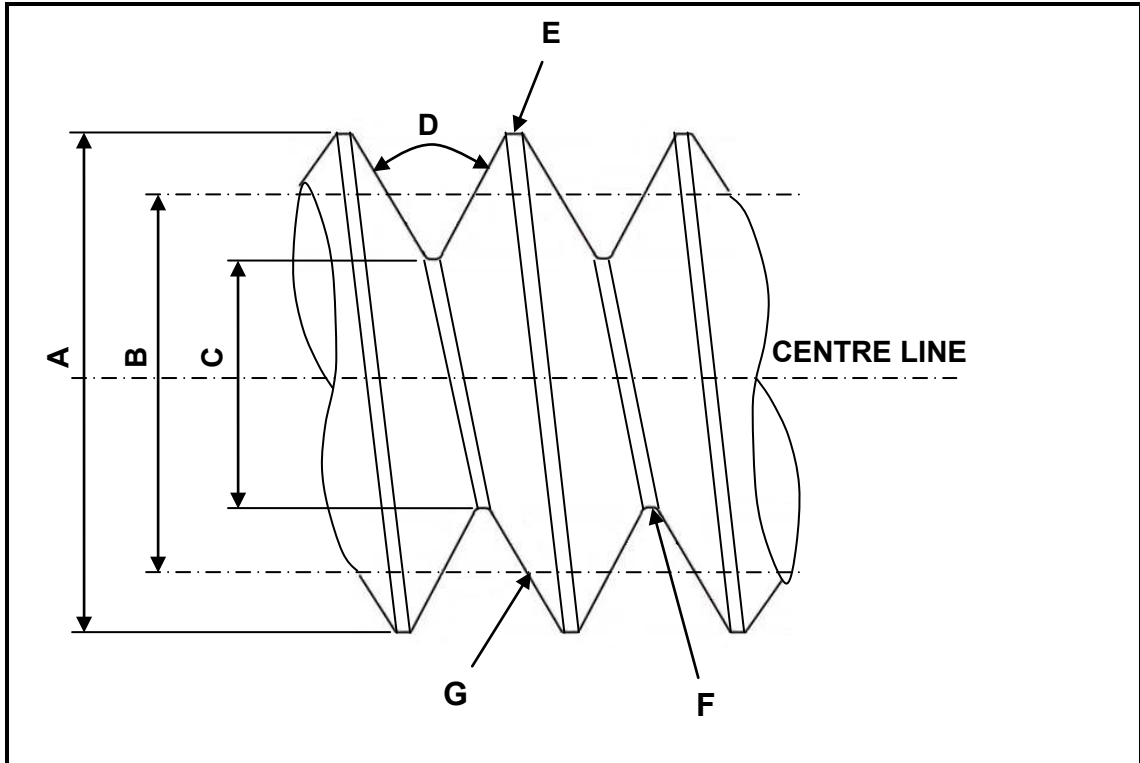

FIGURE 5.1
5.1 FIGURE 5.1 below shows a diagram of a metric V-screw thread. Label parts **A–G**.